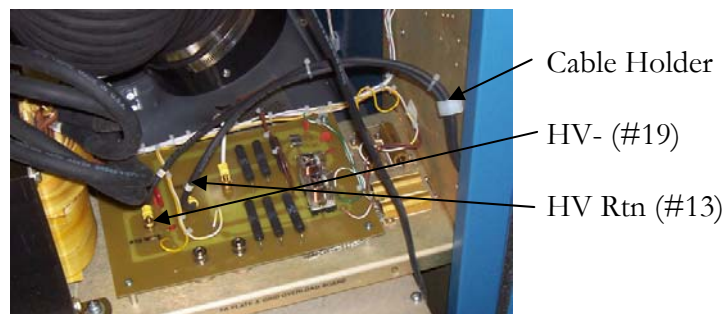

Figure 2-5
- 2.5.1.4 Route the black HV- (#19) and HV Rtn (#13) to the A1A Overload Assembly. Connect the cables to the circuit board as marked and be sure the cables are routed through the cable holder to prevent the cables from touching the power resistors (Figure 2-5).